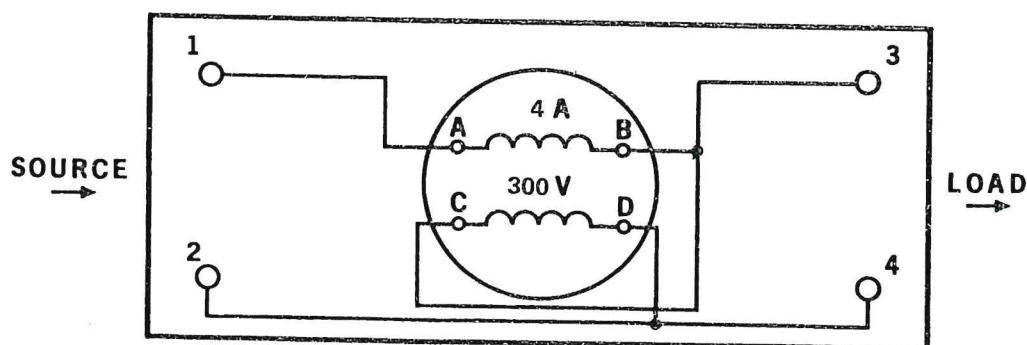

Fig. 15-1
- 1. Examine the construction of the Single-Phase Wattmeter Module EMS 8439 paying particular attention to the meter, connection terminals and the wiring. The module wiring schematic is shown in Fig. 15-1.